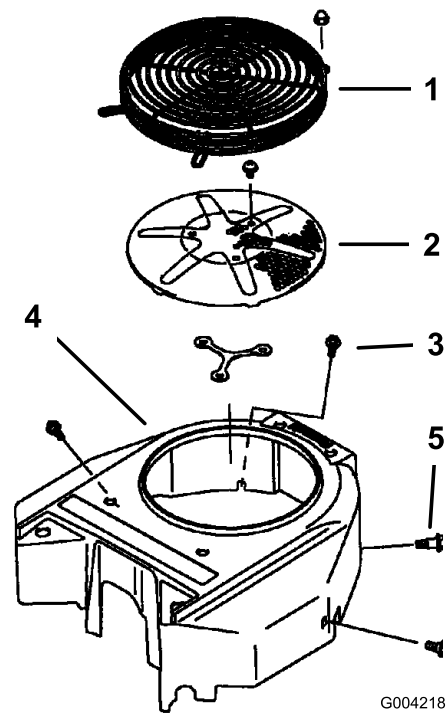

Figure 71
Before each use remove any build-up of grass, dirt, or other debris from the engine screen. This will help ensure adequate cooling and correct engine speed and will reduce the possibility of overheating and mechanical damage to the engine (Figure 71).
3. Remove the air intake screen, recoil starter, and fan housing (Figure 71).
5. Install air intake screen, recoil starter, and fan housing (Figure 71).